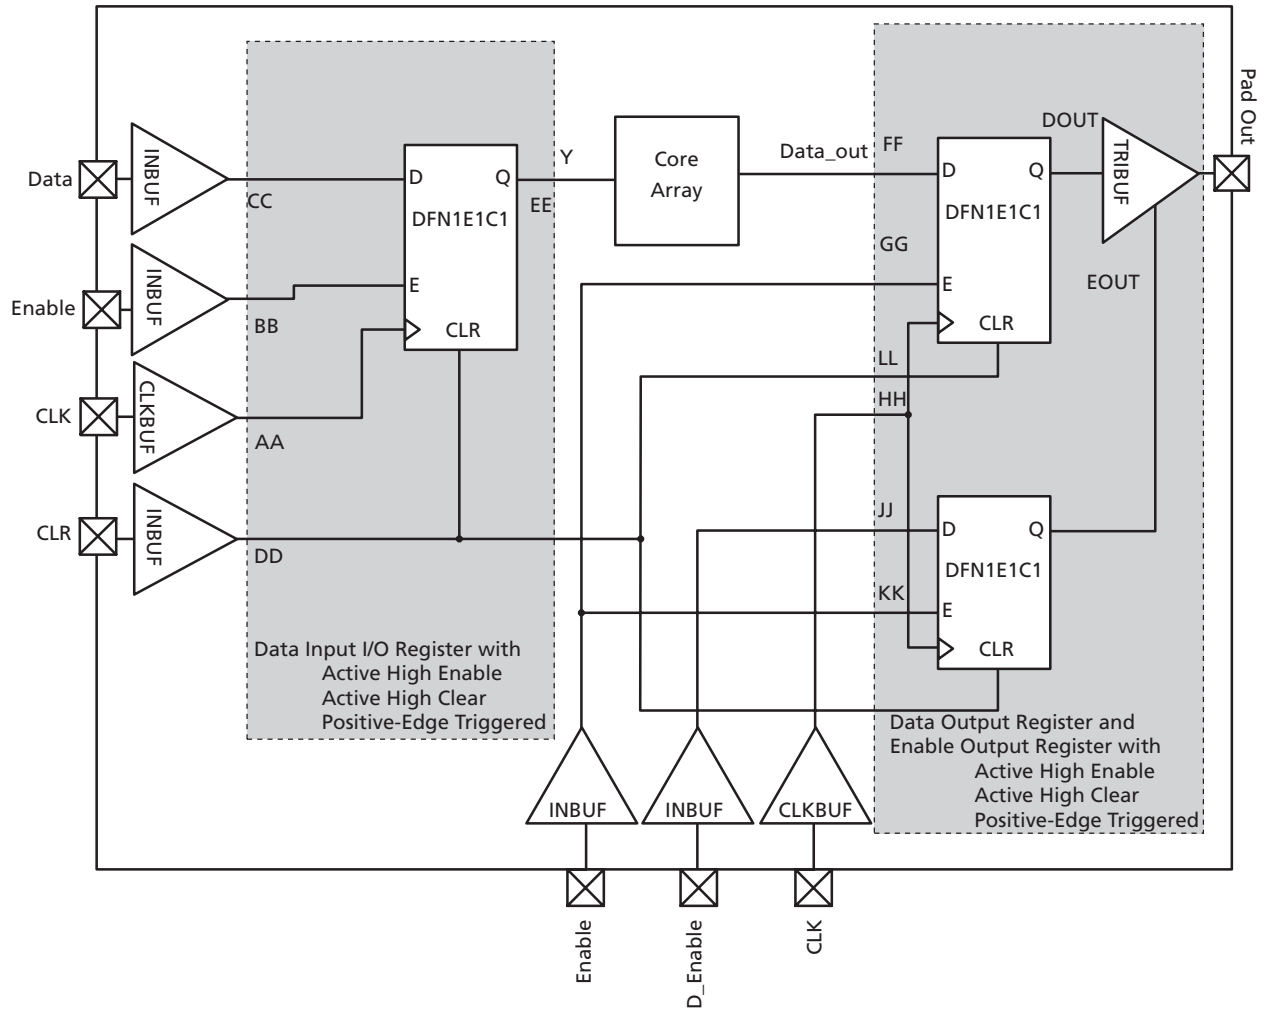

Figure 2-16 • Timing Model of the Registered I/O Buffers with Synchronous Enable and Asynchronous Clear
* See Figure 2-16 on page 2-54 for more information.